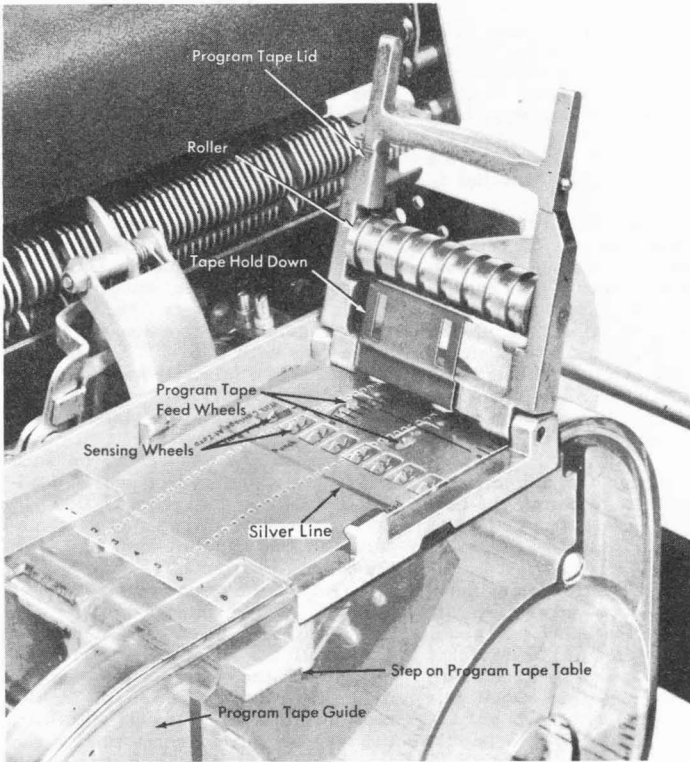

Figure 71. Program Tape Registration
- b. The sensing support must be against the step of the tape table (Figure 71).
6. Adjust the program-tape registration with a program tape in the unit. With the carriage at rest and a slight pressure applied to hold the tape to the right (rear view), a sensing hole should be directly over the silver line on tape table (Figure 71). Loosen the tape-registration screws and shift the program-unit plate left or right to obtain exact registration. Maintain the plate in its lowest position while adjusting. Lock the four registration screws upon completion.